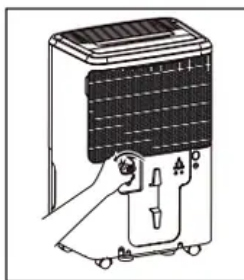

fig. 1
2. Unscrew the drain cap on the back side of the unit. (fig.1)